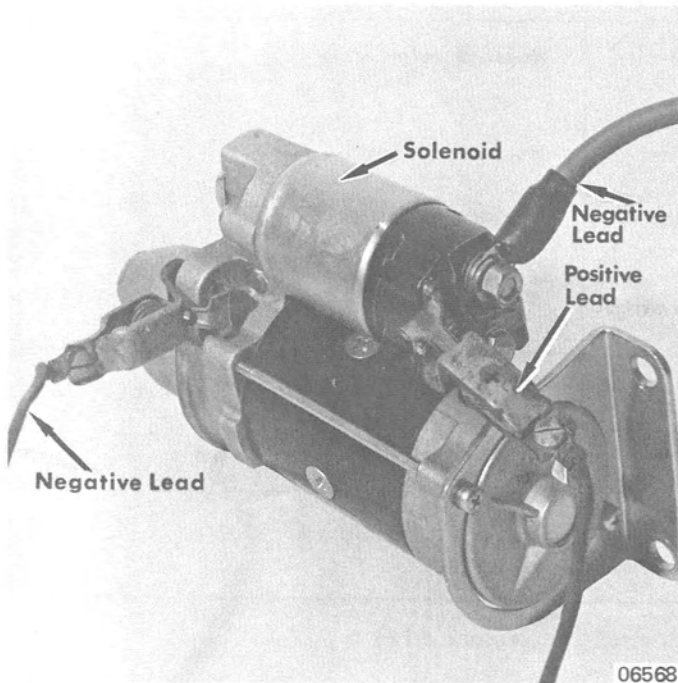

Figure 1. Checking Solenoid "Pull-In" Winding
- a. Using a fully-charged, 12-volt battery, connect positive lead to "50" terminal and 2 negative leads (one to solenoid body and one to contact terminal on top of solenoid. (Figure 1) Solenoid plunger should pull in with 8 volts applied. If not, solenoid is defective and must be replaced.